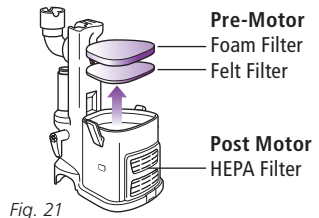

Fig. 21
- Pull the 2 filters out from the top of the motor base. **(Fig. 21)**